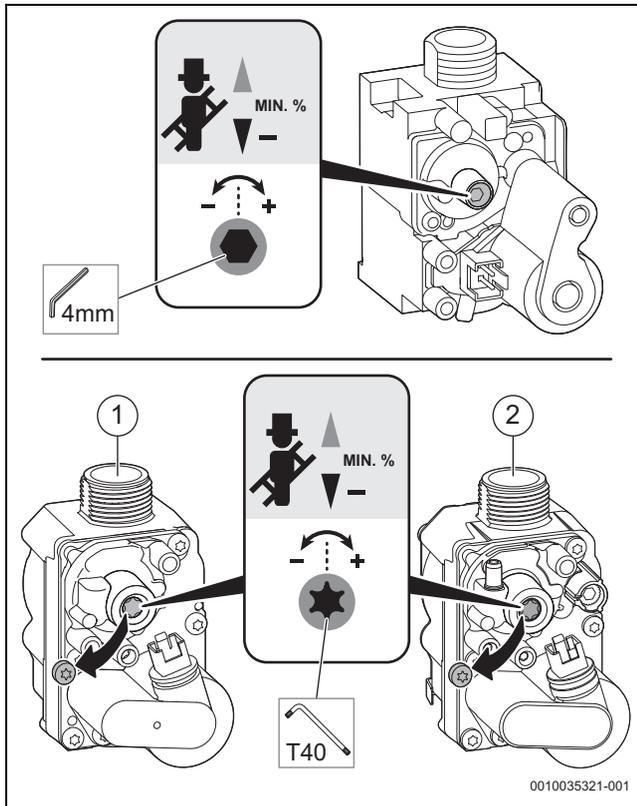

Fig. 79 Setting the CO₂ content (above: SIT valve, below: Honeywell valves)
- ▶ Remove the seal from the adjusting screw of the gas valve (only gas valve is shown in the below Figure 79) and set the CO₂ content for minimum rated output.